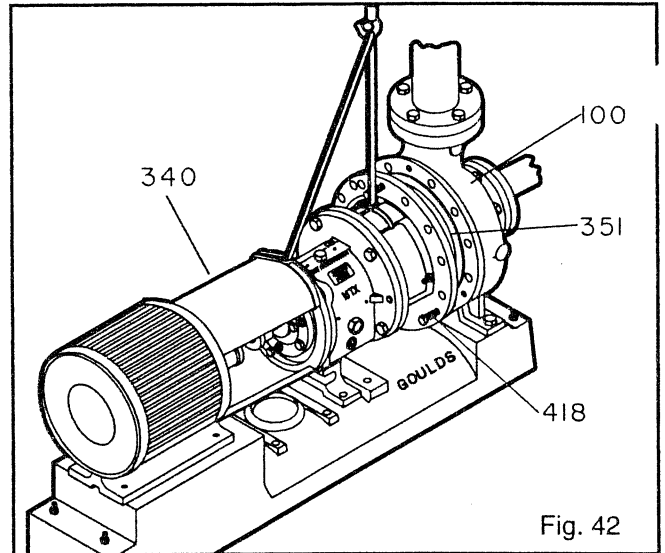

Fig. 42
C-Face adapter: Place one sling from hoist through frame adapter (108) or frame (228A) for STX and a second sling from hoist through the C-Face adapter (Fig. 42).